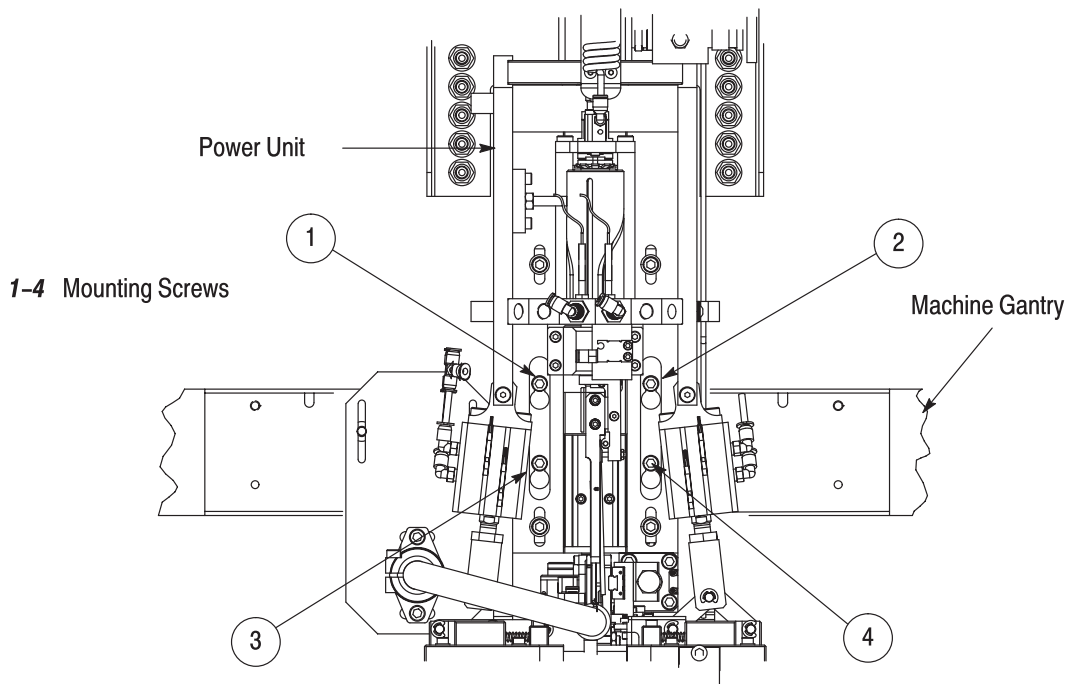

Figure 10
4. Loosen, but do not remove, the four mounting screws that attach the power unit to the machine gantry (refer to Figure 10).